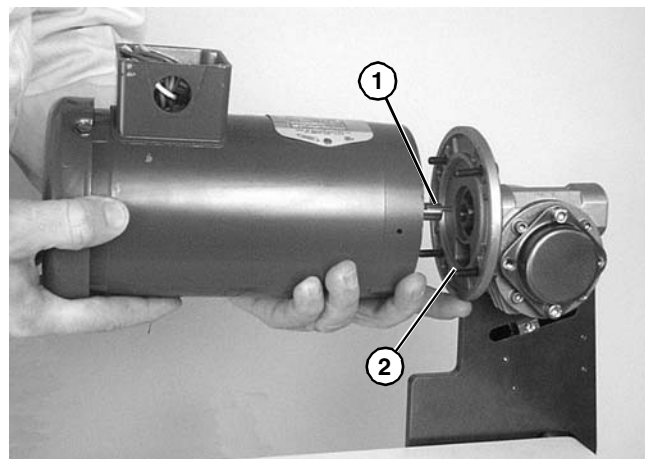

Figure 42
2. Apply anti-seize to motor shaft before assembling to gearbox. With key (Figure 42, item 1) in keyway, slide motor and gear reducer together. Install screws (Figure 42, item 2) and tighten.